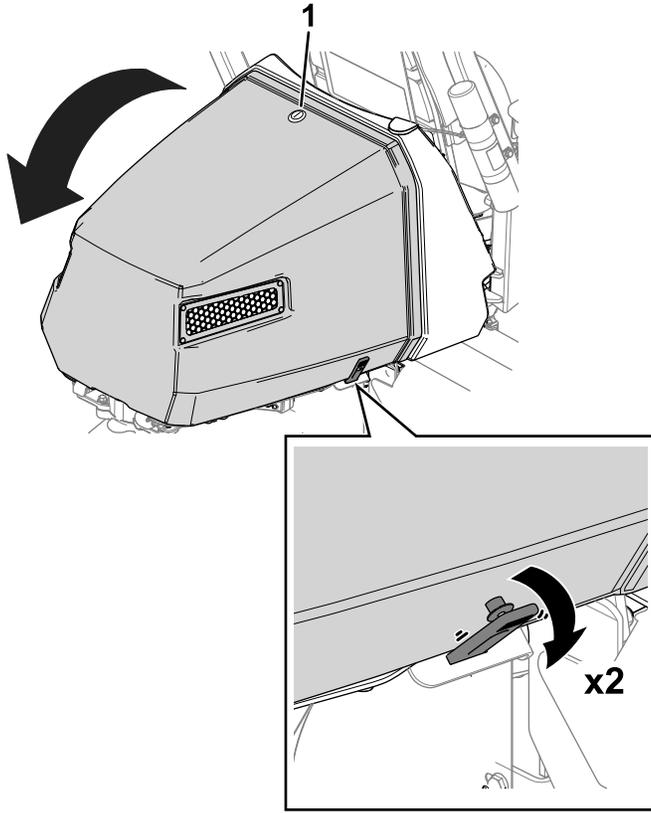

Figure 37
1. Release the hood latch (Figure 37).
2. Release the straps from each side of the hood (Figure 37).